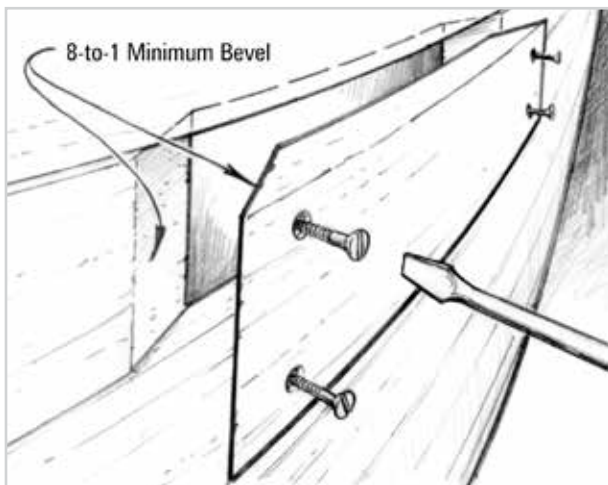

Figure 5-6 Replace a section of plank using scarf joints.
3. Cut a piece of wood to fit the opening. Match the 8-to-1 bevel on each end (Figure 5-6). Make the new piece of wood slightly thicker than the original planking. Excess material inside or outside the hull can be planed off after the glue has cured.